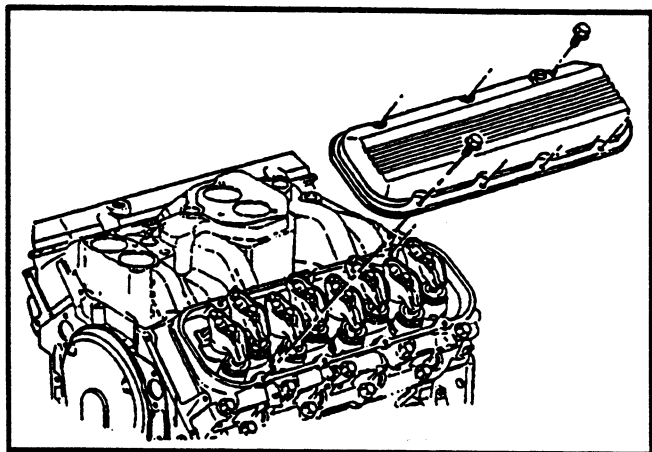

FIGURE 5. REMOVE THE ROCKER ARM COVER
8. Remove the rocker arm covers. See FIGURE 5.